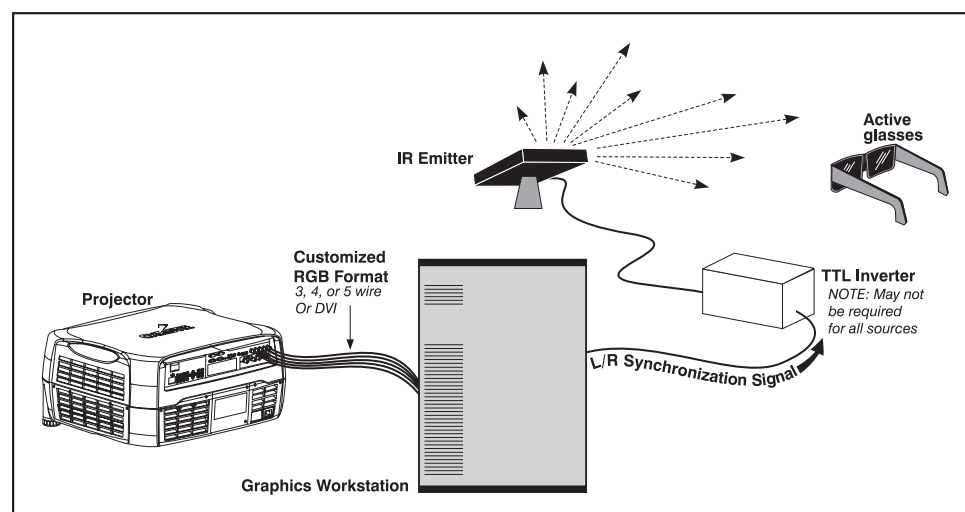
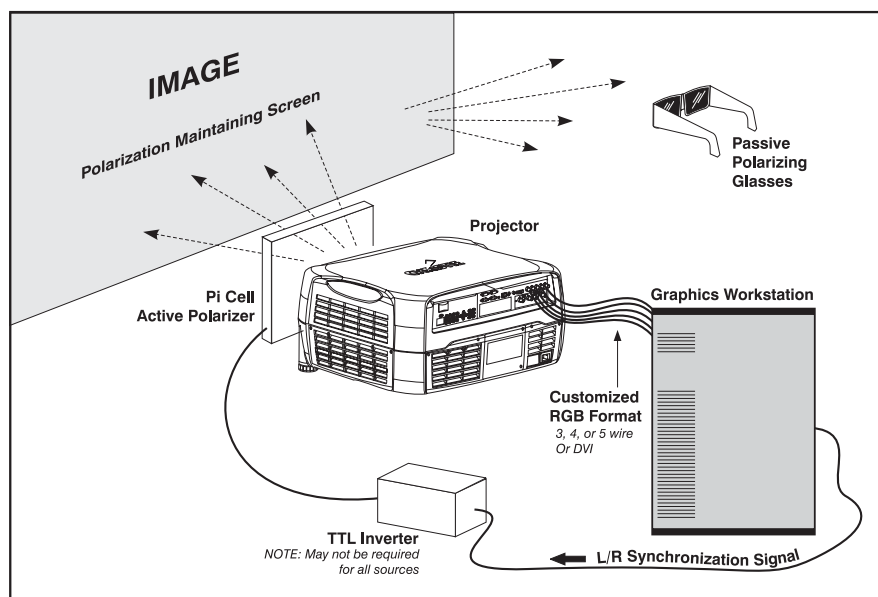
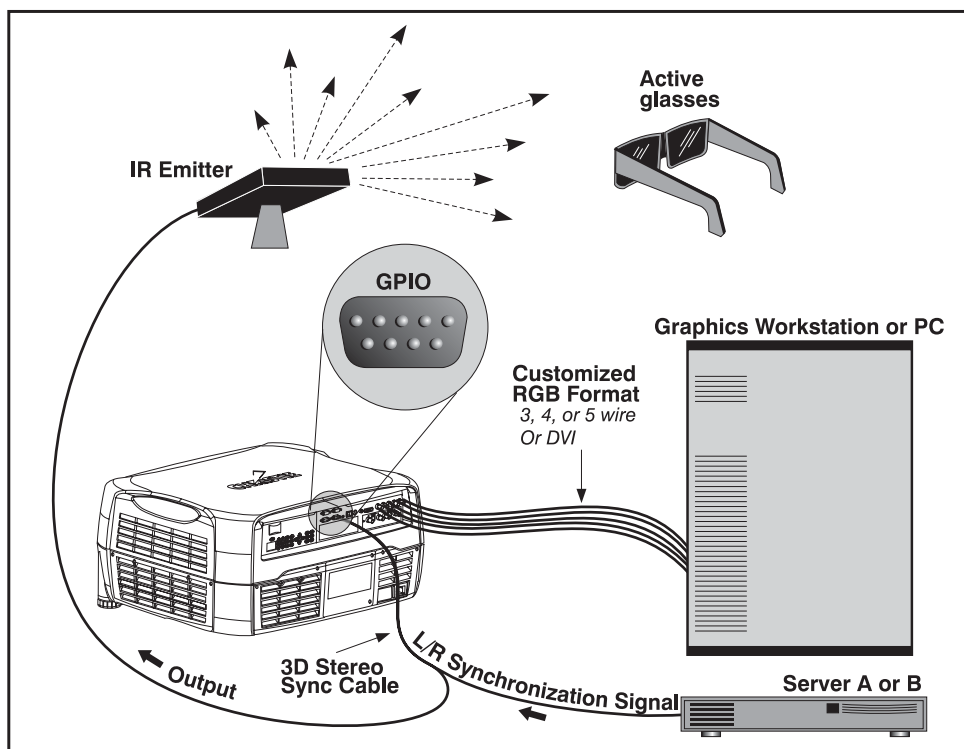
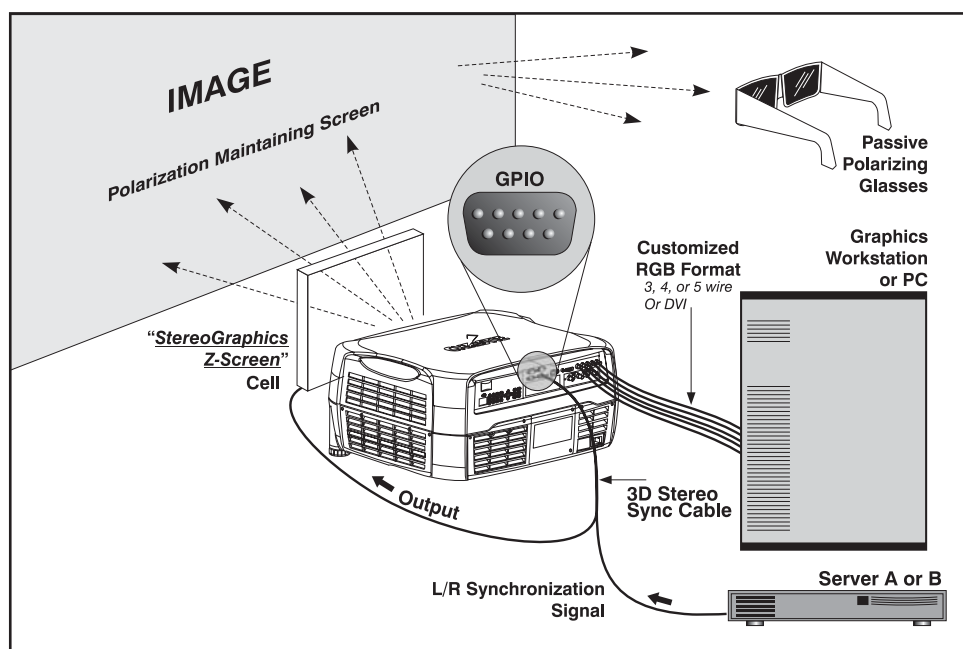

**Figure 3.25. Typical 3D Configuration with Active Glasses & TTL Inverter**
**Figure 3.26. Typical 3D Configuration with Passive Glasses & TTL Inverter**
**Figure 3.27. Typical 3D Configuration: Active Glasses & 3D Stereo Sync Cable**
**Figure 3.28. Typical 3D Configuration: Passive Glasses & 3D Stereo Sync Cable**
**Hardware Requirements** ➤ Typical hardware configurations for active and passive 3D systems are shown in Figure 3.25, Figure 3.26, Figure 3.27 and Figure 3.28. Hardware descriptions follow the illustrations.